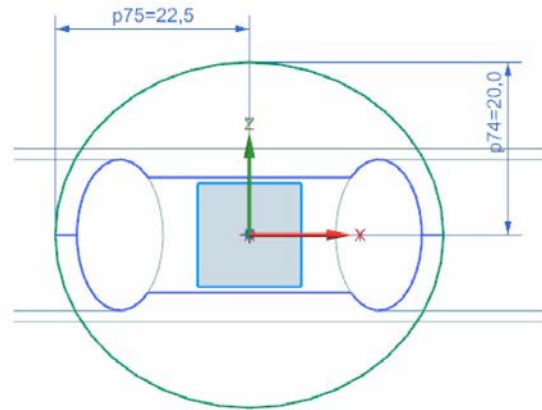

Figure 10-119 The second section curve
5. Select the newly created datum plane as the sketching plane and create the second section curve, as shown in Figure 10-119. For dimensions, refer to Figure 10-110.